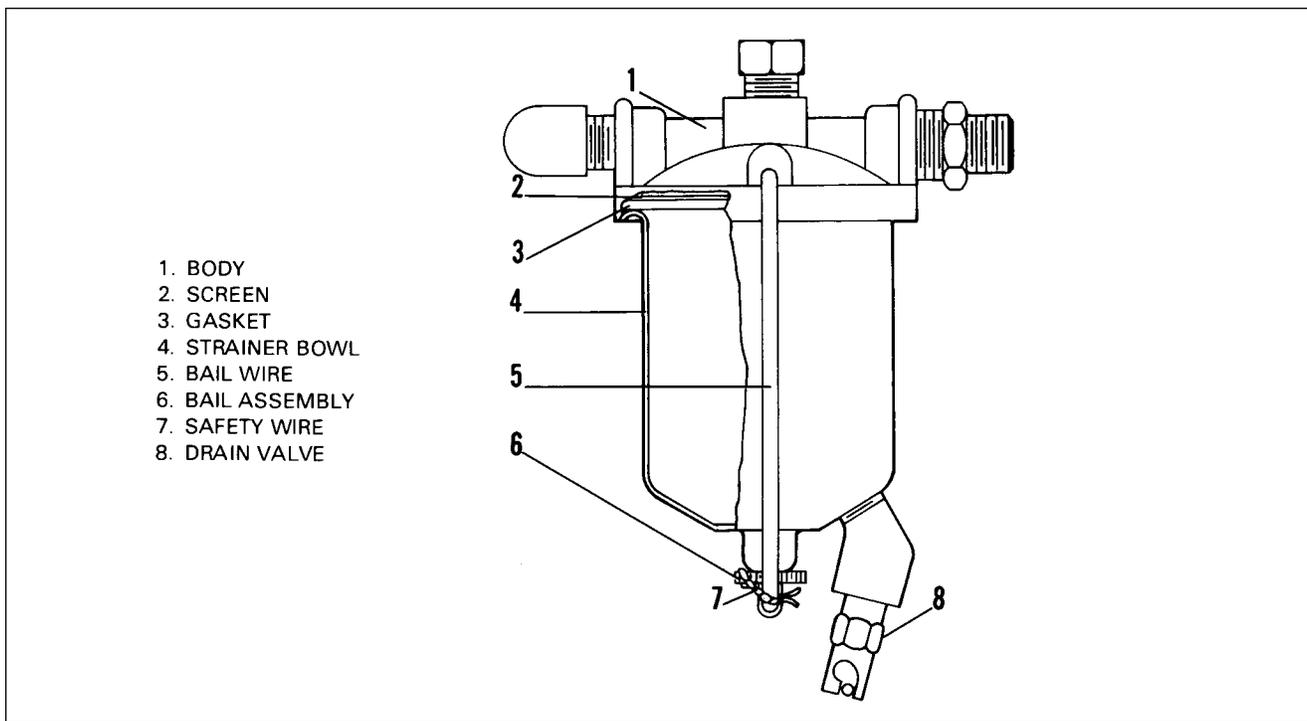

Figure 28-5. Fuel Filter Bowl and Screen
**FUEL FILTER BOWL AND SCREEN.** (Refer to Figure 28-5.)